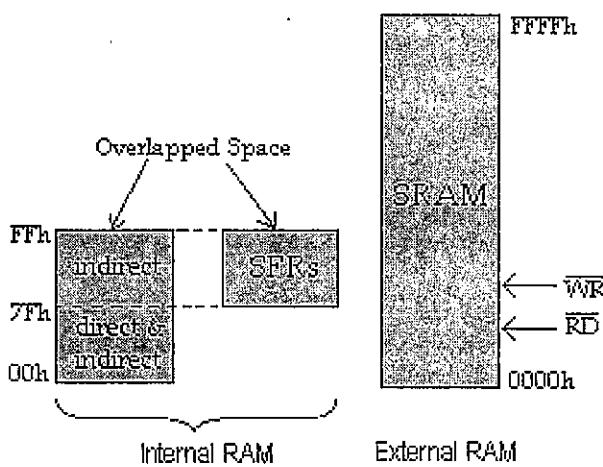

Figure Q4/Rajah Q4
- Q4. Refer to Figure Q4. Write an instruction(s) to clear the content of internal RAM at byte address location of 88H.